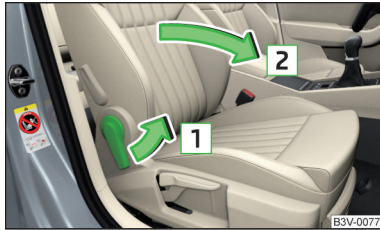

Fig. 91
- › To **fold down**, pull the lever in direction of arrow , fold the seat backrest in the direction of arrow  » Fig. 91. The locking mechanism must audibly snap into place.